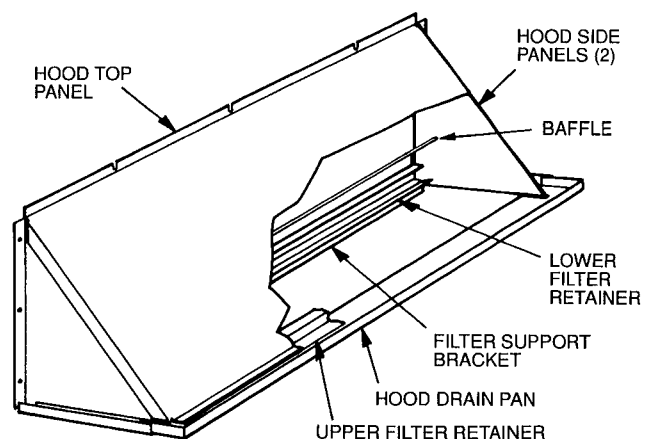

Fig. 24 — Outdoor-Air Hood Details
2. Assemble hood top cover, side panels, upper filter retainer, and drain pan (see Fig. 24).
3. Secure lower filter retainer and support bracket to unit. See Fig. 24. Leave screws loose on 020-028 units.